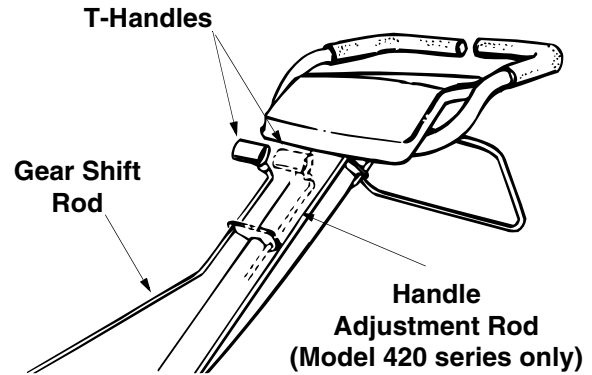

Figure 5
- Remove the T-handle, nut, hairpin clip, flat washer and rubber washer from the end of the gear shift rod. Slide the rod up through the bracket on the front of the handle assembly (use the right hand hole for Model 420 series). See Figure 5.
- Remove the T-handle, nut, hairpin clip, and rubber washer from the ends of the handle adjustment rod. Slide the rod up through the left side of the bracket on the front of the handle assembly. Refer to Figure 5.